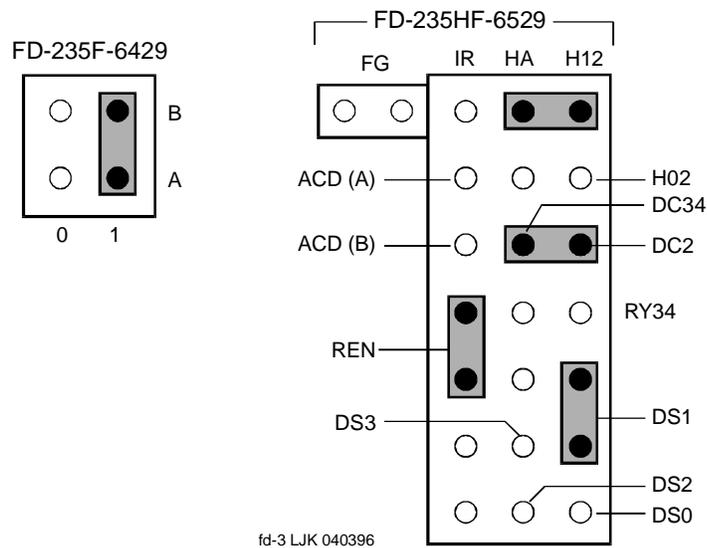
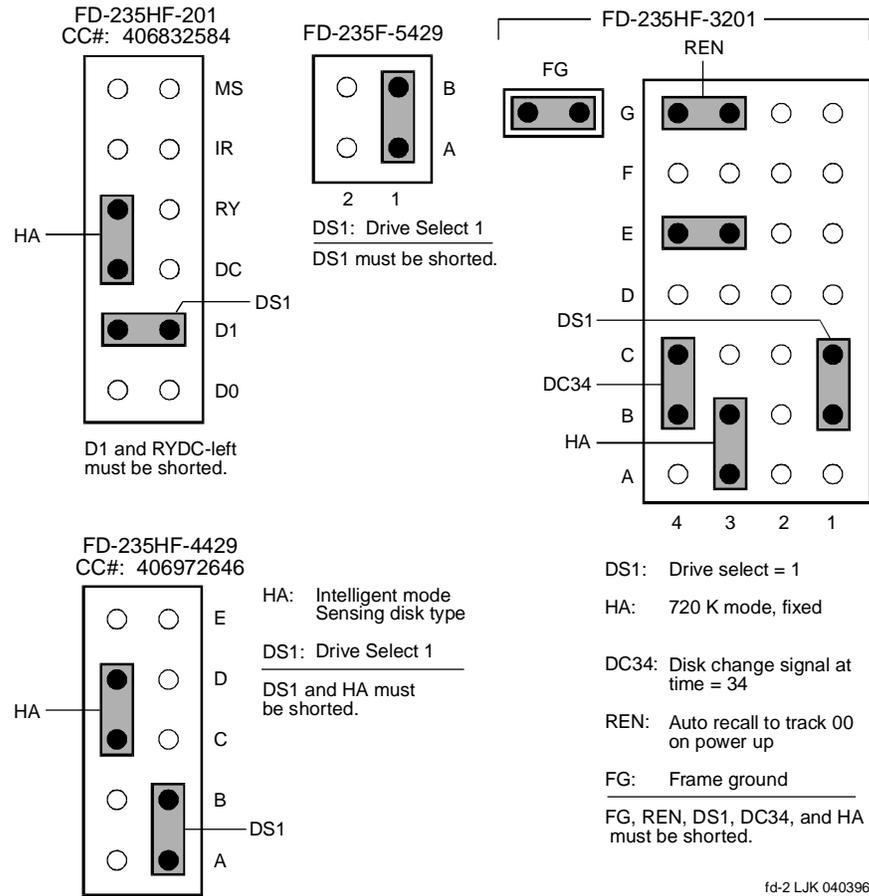

Figure 7-10. Floppy Disk Drive Jumper Connections (6429 and 6529)
Figure 7-11. Floppy Disk Drive Jumper Connections (201, 3201, 4429, and 5429)
3. Verify that the jumpers are set as shown in Figure 7-10 and Figure 7-11.